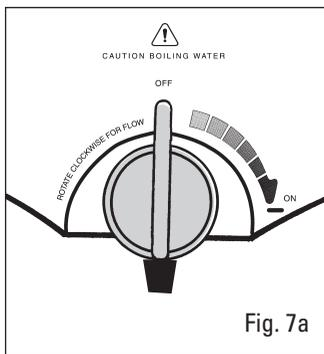

Fig. 7a
- Turn the knob anti-clockwise to OFF (Fig. 7a).